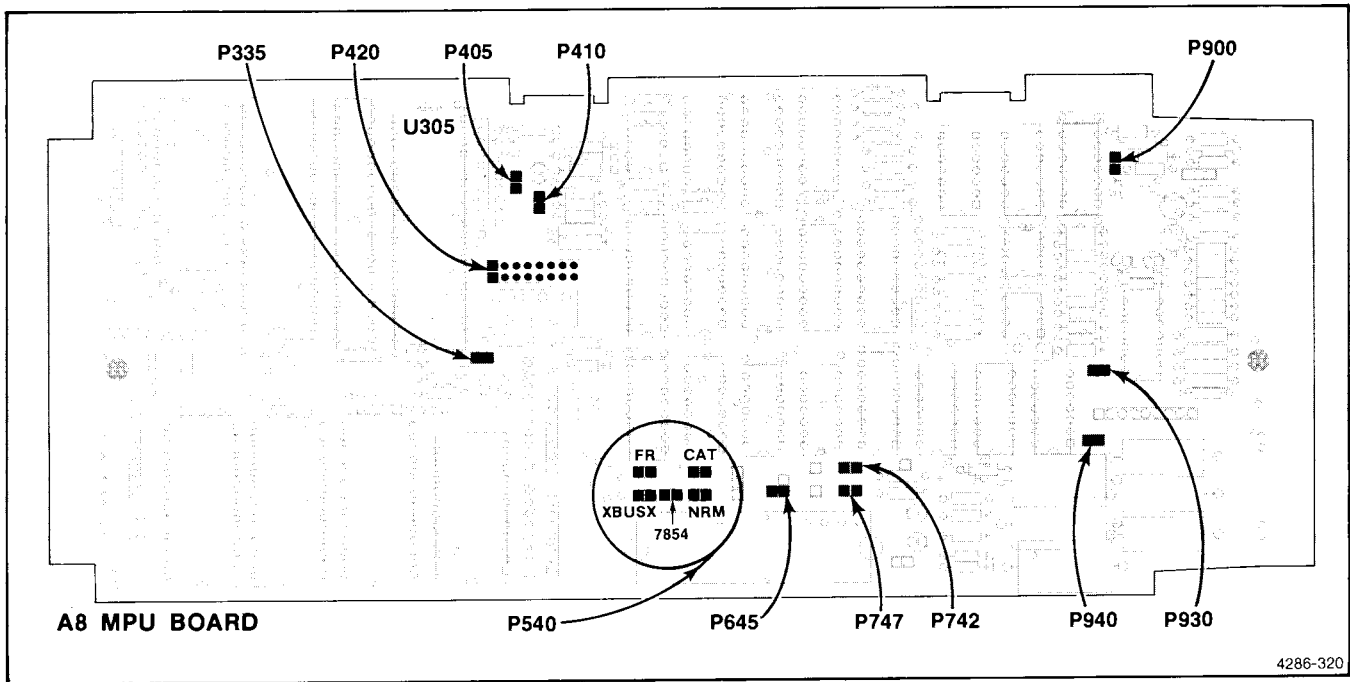

Figure 3-7. Location of jumpers on A8 MPU Board.
4. Remove the eight P420 link-plug jumpers located to the right of A8U305 (8085A). See Figure 3-7.
9. Install the \overline{ARST} link-plug jumper, P405, which is located to the right of A8U305. This will prevent automatic restarts to the processor. Figure 3-7 shows the jumpers on the A8 MPU Board.
3. Move the MODE link-plug jumper A8P540 to XBUSX position. See Figure 3-7.